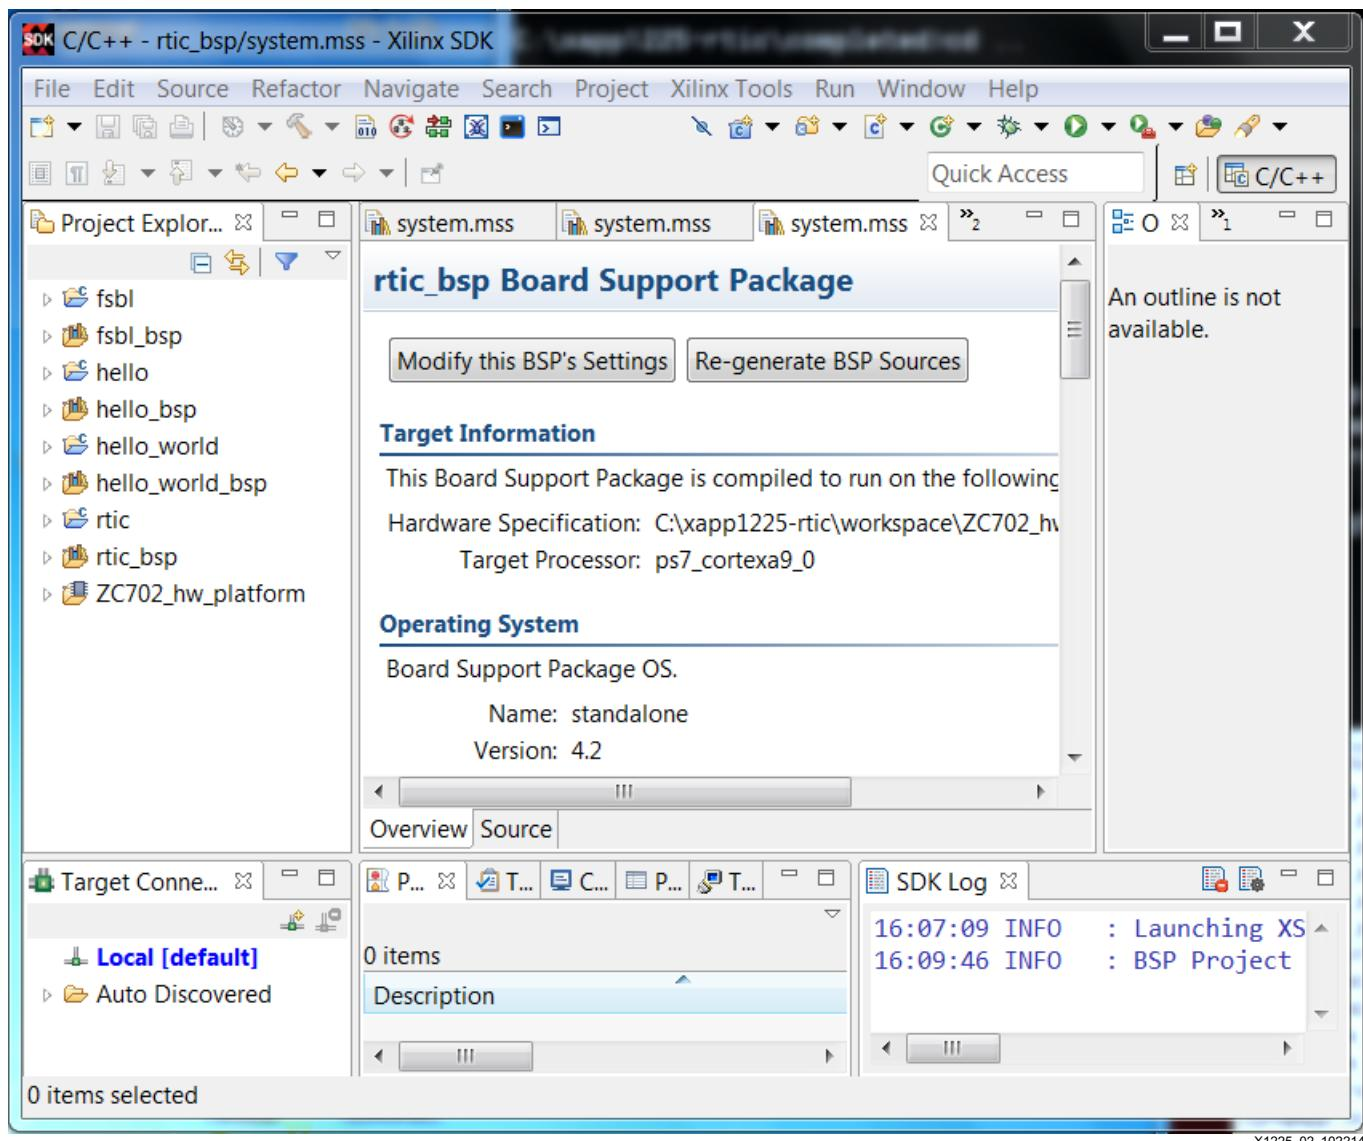

Figure 3: Locating the Partition Start Address, Size, and AC Start Address
11. As shown in Figure 3, open `hello.bin` in a text editor such as Textpad.